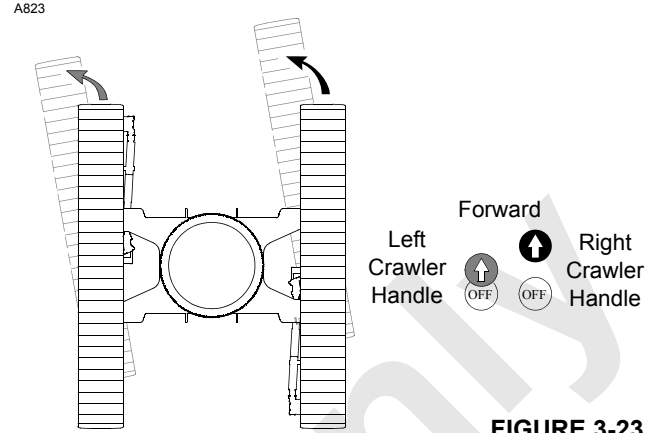
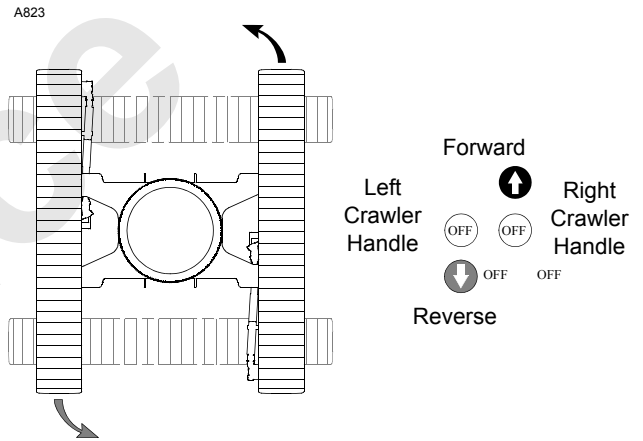

FIGURE 3-23
FIGURE 3-24
- Make gradual turns (Figure 3-23) or counter-rotate (Figure 3-24) whenever possible so both crawlers are always powered.
- 10. To make a GRADUAL LEFT TURN (Figure 3-23), move both crawler handles to front from off, but move right crawler handle farther to front than left crawler handle; right crawler will turn faster than left crawler.
- 12. To COUNTER-ROTATE LEFT (Figure 3-24), move right crawler handle to front from off and move left crawler handle to rear from off.